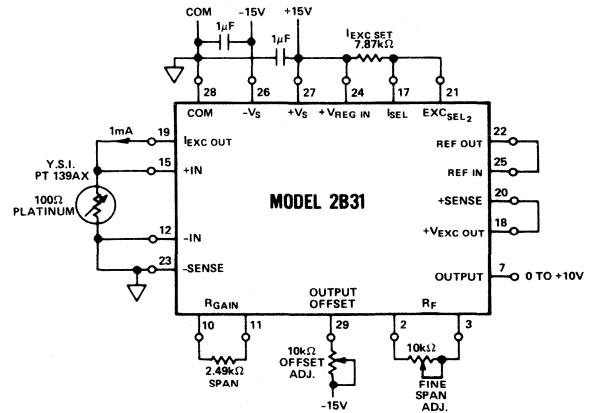

Figure 7. Platinum RTD Temperature Measurement
**Platinum RTD Temperature Measurement:** In Figure 7 model 2B31 provides complete convenient signal conditioning in a wide range ( $-100^{\circ}\text{C}$  to  $+600^{\circ}\text{C}$ ) RTD temperature measurement system. YSI - Sostman four-wire,  $100\Omega$  platinum RTD (PT139AX) is used. The four wire sensor configuration, combined with a constant current excitation and a high input impedance offered by the 2B31, eliminates measurement errors resulting from voltage drops in the lead wires. Offsetting may be provided via the 2B31's offset terminal. The gain is set by the gain resistor for a +10V output at  $+600^{\circ}\text{C}$ . Measurement resolution and repeatability is  $\pm 0.1^{\circ}\text{C}$ .